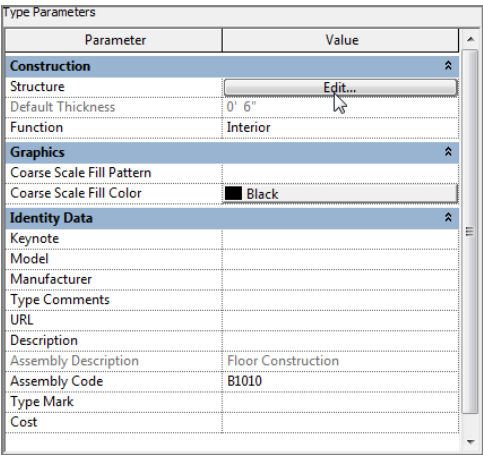

FIGURE 6.37: Editing the structure of the slab
- 10. Click the Edit button in the Structure row, as shown in Figure 6.37.